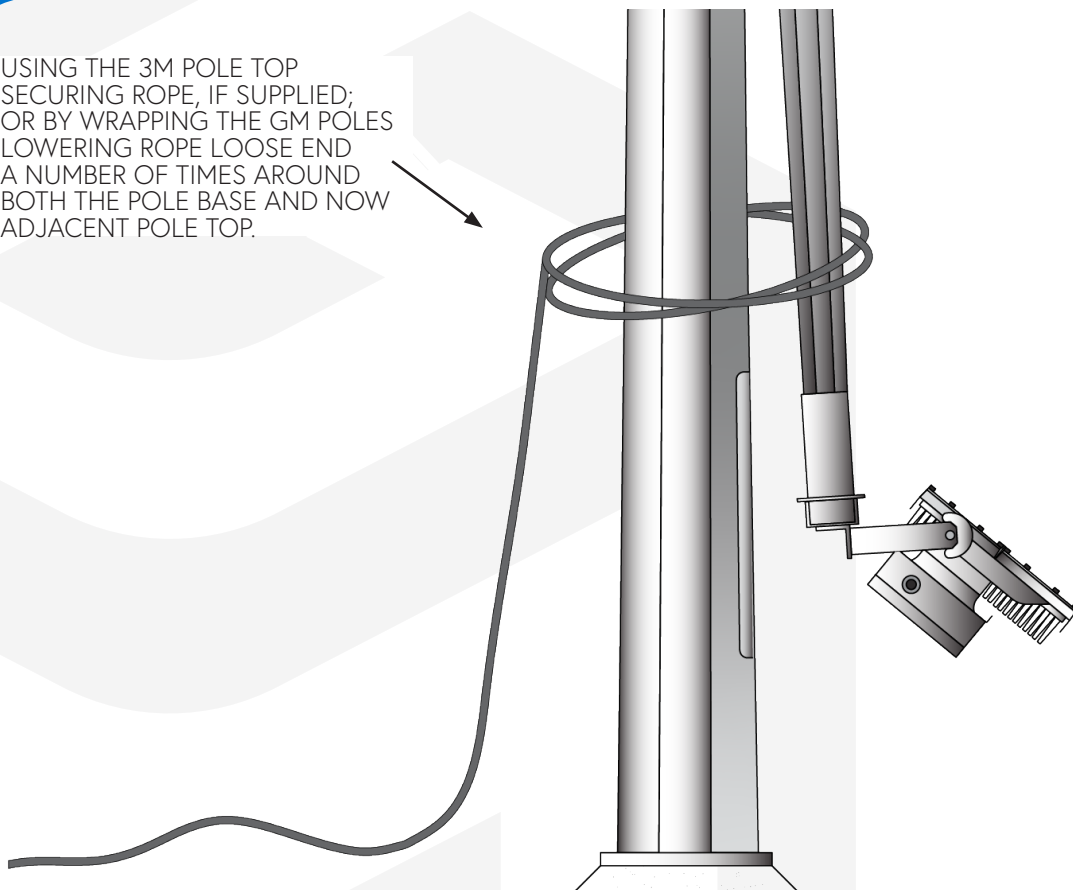

Figure 8.
18. Secure the top of the pole to the pole base *Refer figure 8* by either: